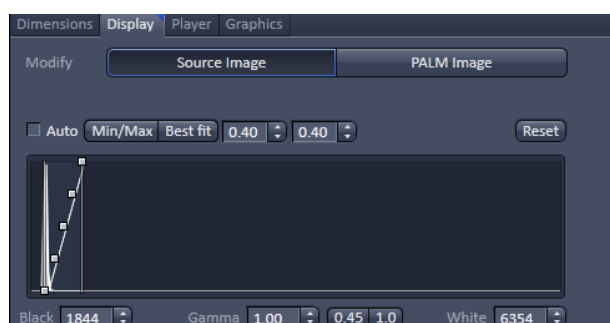

Fig. 51 Display view control tab
- If the slider in the Display view control tab is offset from the Reset (linear) position, red as well as blue pixels can also occur. Use the slider to set contrast and brightness to values that avoid red and blue pixels. (Fig. 51).
- When the image is saturated with the slider in the **Display** view control tab at **Reset** (linear), reduce AOTF transmission in the **Laser** control section of the **Channels** tool (Fig. 51).